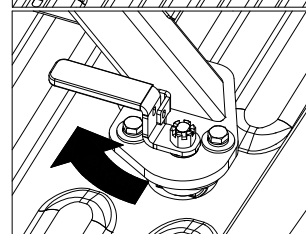

FIGURE C2:
- Once the base is in place, turn each of the latch handles as shown in figure C2. Turning the latch handles clamps the base down to the truck. It is critical that the base be drawn down firmly onto the attachment points. If a handle rotates freely, or will not rotate without excessive force, it will need to be adjusted.